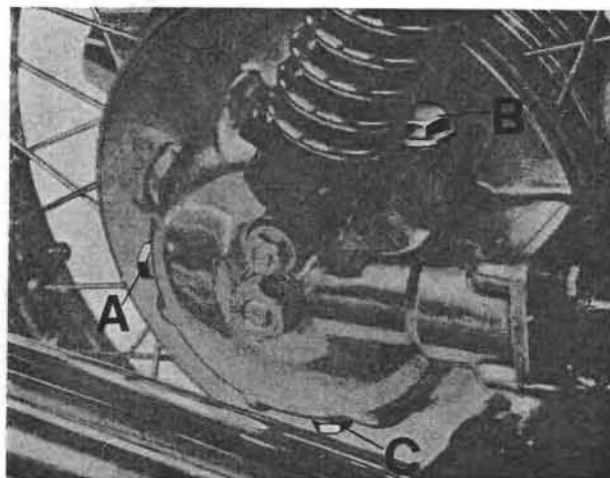

Fig. 88
- remove from drive box filler plug (B) and level plug (A) c/w gaskets (see Fig. 88).
- replace oil drain plug (see C on Fig. 88).